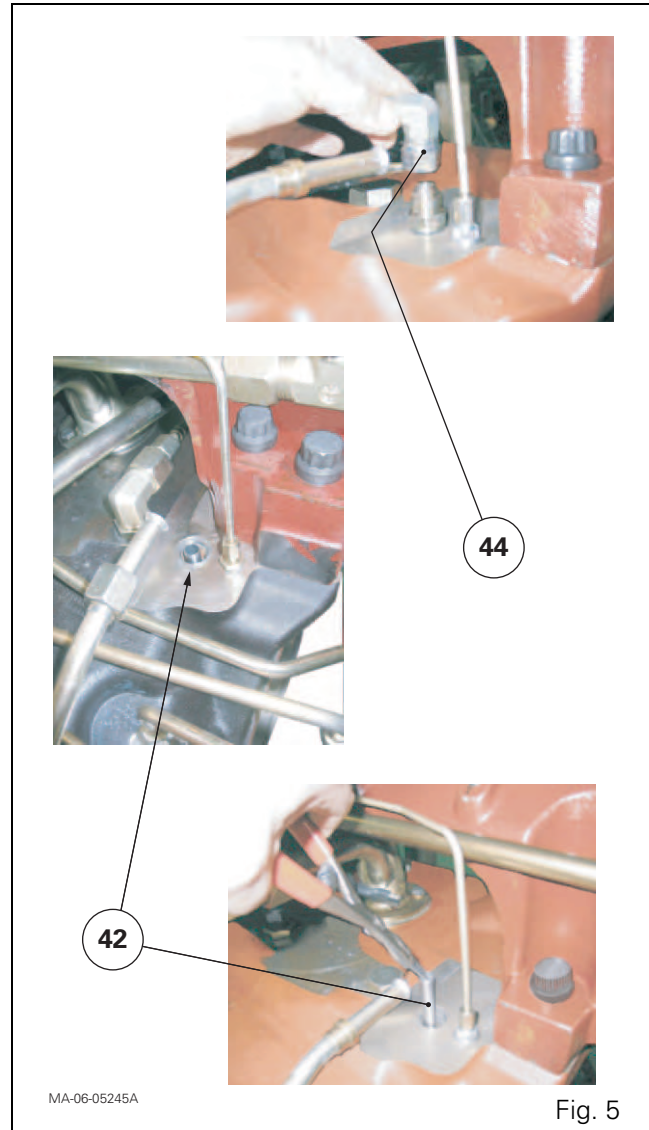

Fig. 5
2. Disconnect the differential lock supply pipe. Remove the 90° elbow union (44) (Fig. 5) located on the top left of the centre housing.
3. Raise the transfer pipe (42) (Fig. 5) in order to free it from the hydraulic chamber of the left-hand differential support.